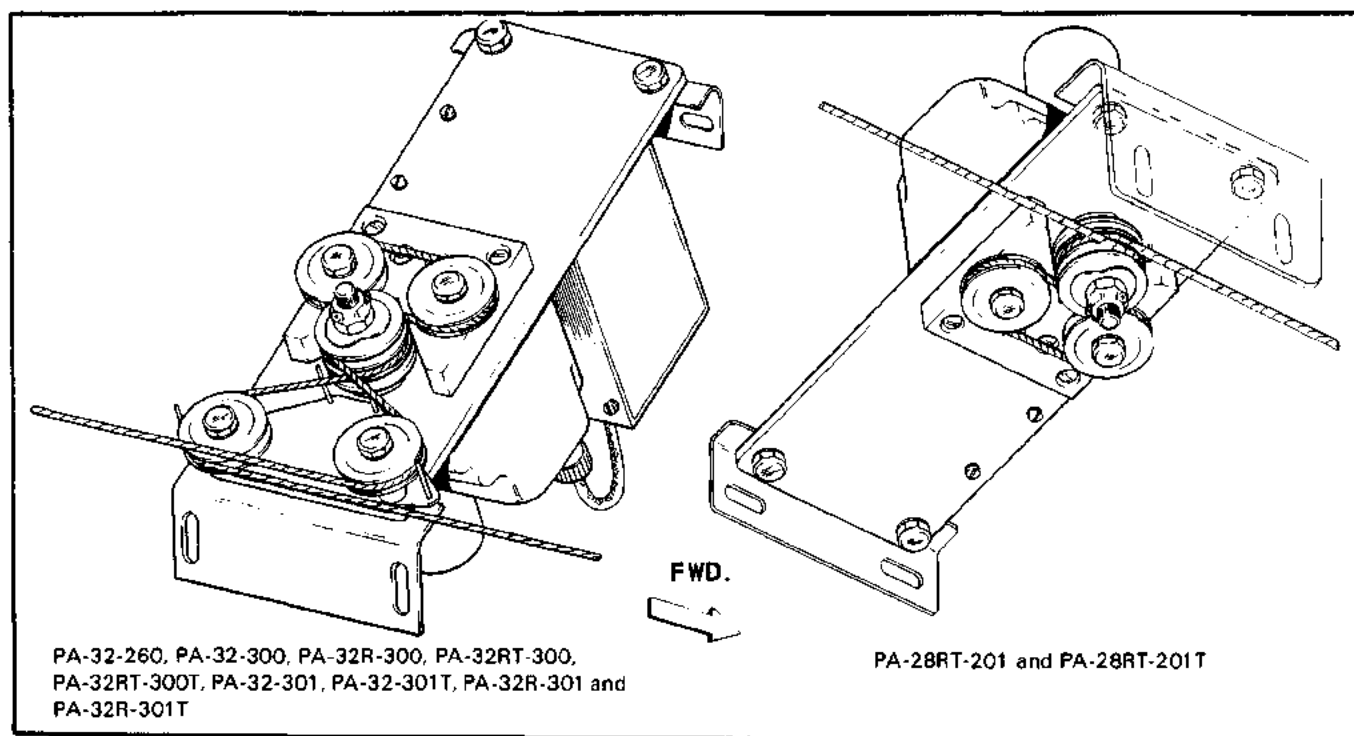

Figure 3-29. Pitch Trim Servo Installation,
**3-88. INSTALLATION OF PITCH TRIM SERVO. (PA-32-260, PA-32-300, PA-32R-300, PA-32RT-300, PA-32RT-300T, PA-32-301, PA-32-301T, PA-32R-301 and PA-32R-301T) (Refer to Figure 3-29.)**